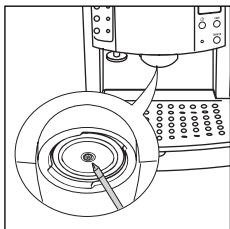

fig. 32
- Using a screwdriver, unscrew the screw fixing the espresso boiler outlet (fig. 32);